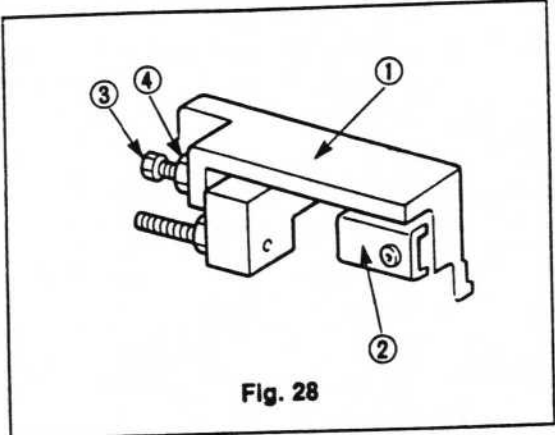

Fig. 28
- (6) Hold the tape feeder with your right hand so it does not move, and move the tape feeder block (1) with your free hand.
- (7) Bring the dial gauge (see Fig. 28) into contact with the pin of the positioning wheel.
- (8) Check that the gauge reads 0.02 - 0.05 mm.